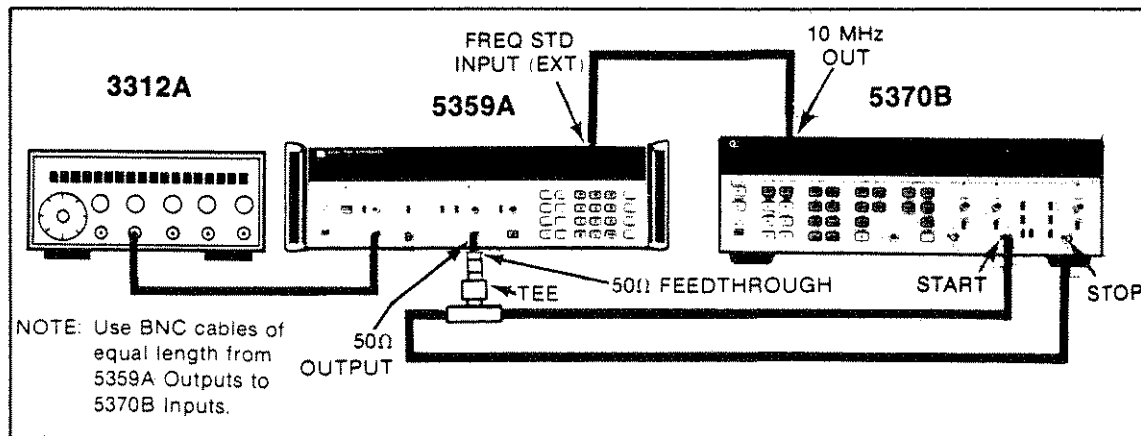

Figure 4-3. Setup for WIDTH Performance Test
4. Connect the 3312A, 5359A and 5370B as shown in Figure 4-3.
- d. Connect the 5359A and 5370B as shown in *Figure 4-3*.